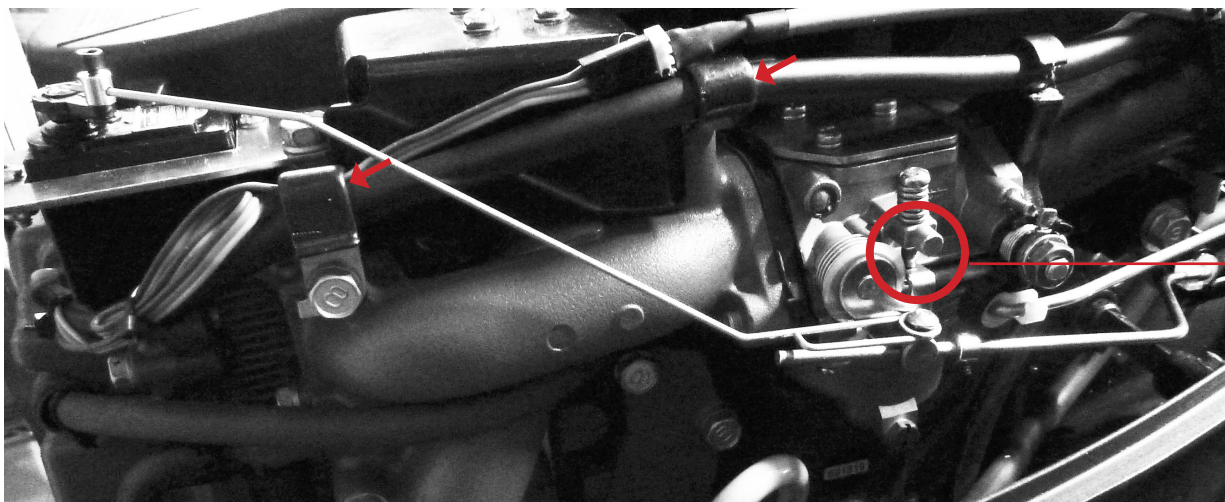

Figure 8 - Complete Installation
Step 15: See Fig. 8
Yamaha has used two types of hose retainers (see arrows in Fig. 8). When looking from above, one type holds the hose close to the choke box, the other spaces the hose far from the choke box (3/4 to 1 inch).
- **Motors WITH Dogleg: You may have to make pull rod taller by increasing the angles of the bends at locations shown in Fig 8.**